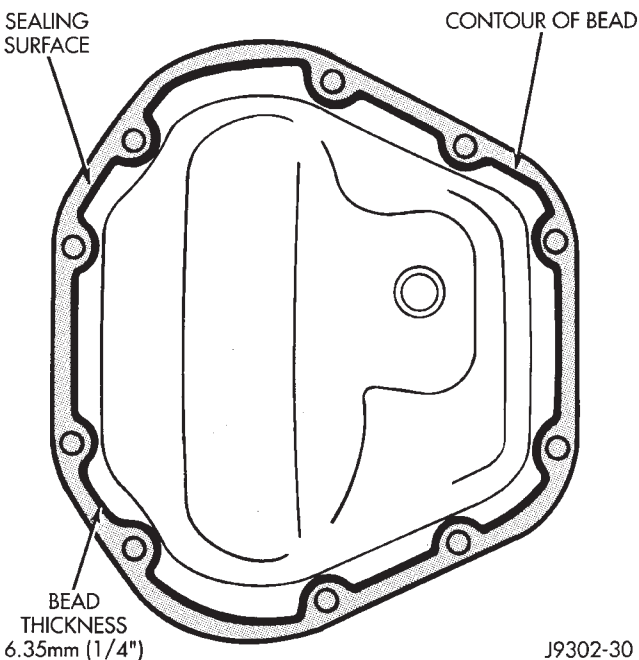

Fig. 68 Typical Housing Cover With Sealant
(1) Install the axle shafts. Refer to Axle Shaft Installation in this Group.
(2) Scrape the residual sealant from the housing and cover mating surfaces. Clean the mating surfaces with mineral spirits. Apply a bead of MOPAR® Silicone Rubber Sealant on the housing cover (Fig. 68). **Allow the sealant to cure for a few minutes.**